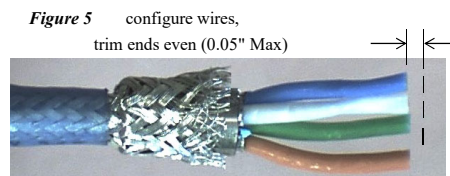

Figure 5
- 5) Form wires into the desired configuration (ex. Fig. 5), per assembly dwg, in preparation for insertion into the connector (reference Fig. 10 for typical wiring configuration). Trim off the ends of the wires square and even using sharp wire cutters (to avoid flattening foam FEP insulation). Trim off .050" Max (Fig. 5).